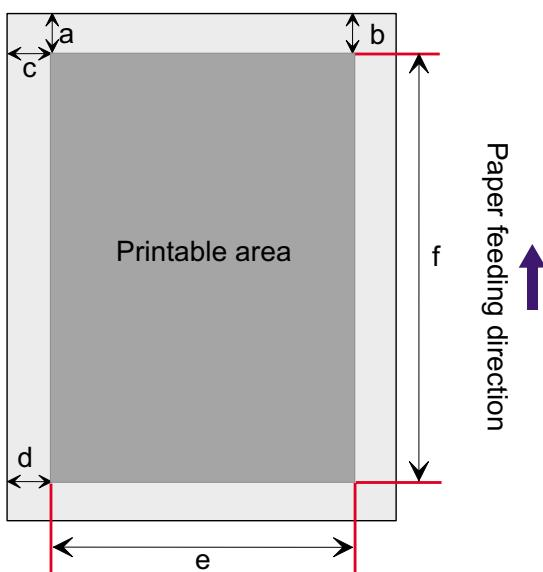

Figure 1-2. Paper Skew
- See Figure 1-2, "Paper Skew".